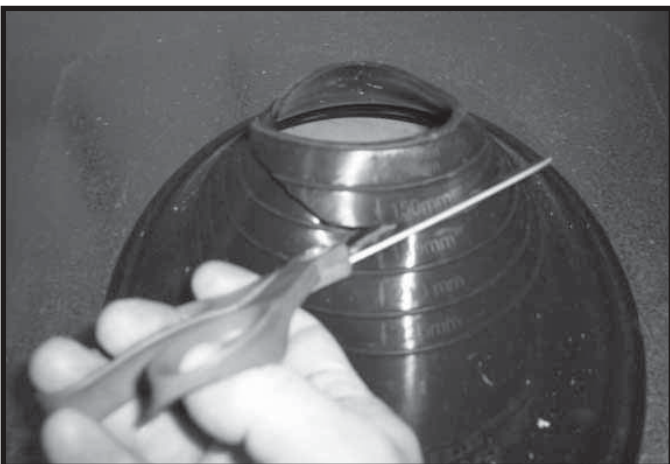

Figure 10.16 Trim Rubber Boot
- Trim the rubber boot (using scissors or a utility knife), cutting along the marked measurement lines. See Figure 10.16. Use the 150 mm line.